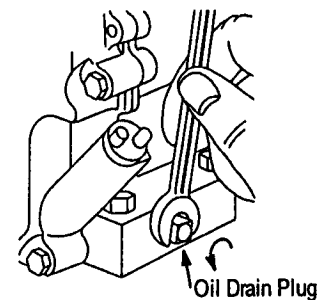

Figure 9
2. Replace the drain plug and refill with 44 ounces of SAE30 motor oil (*Figure 9*).